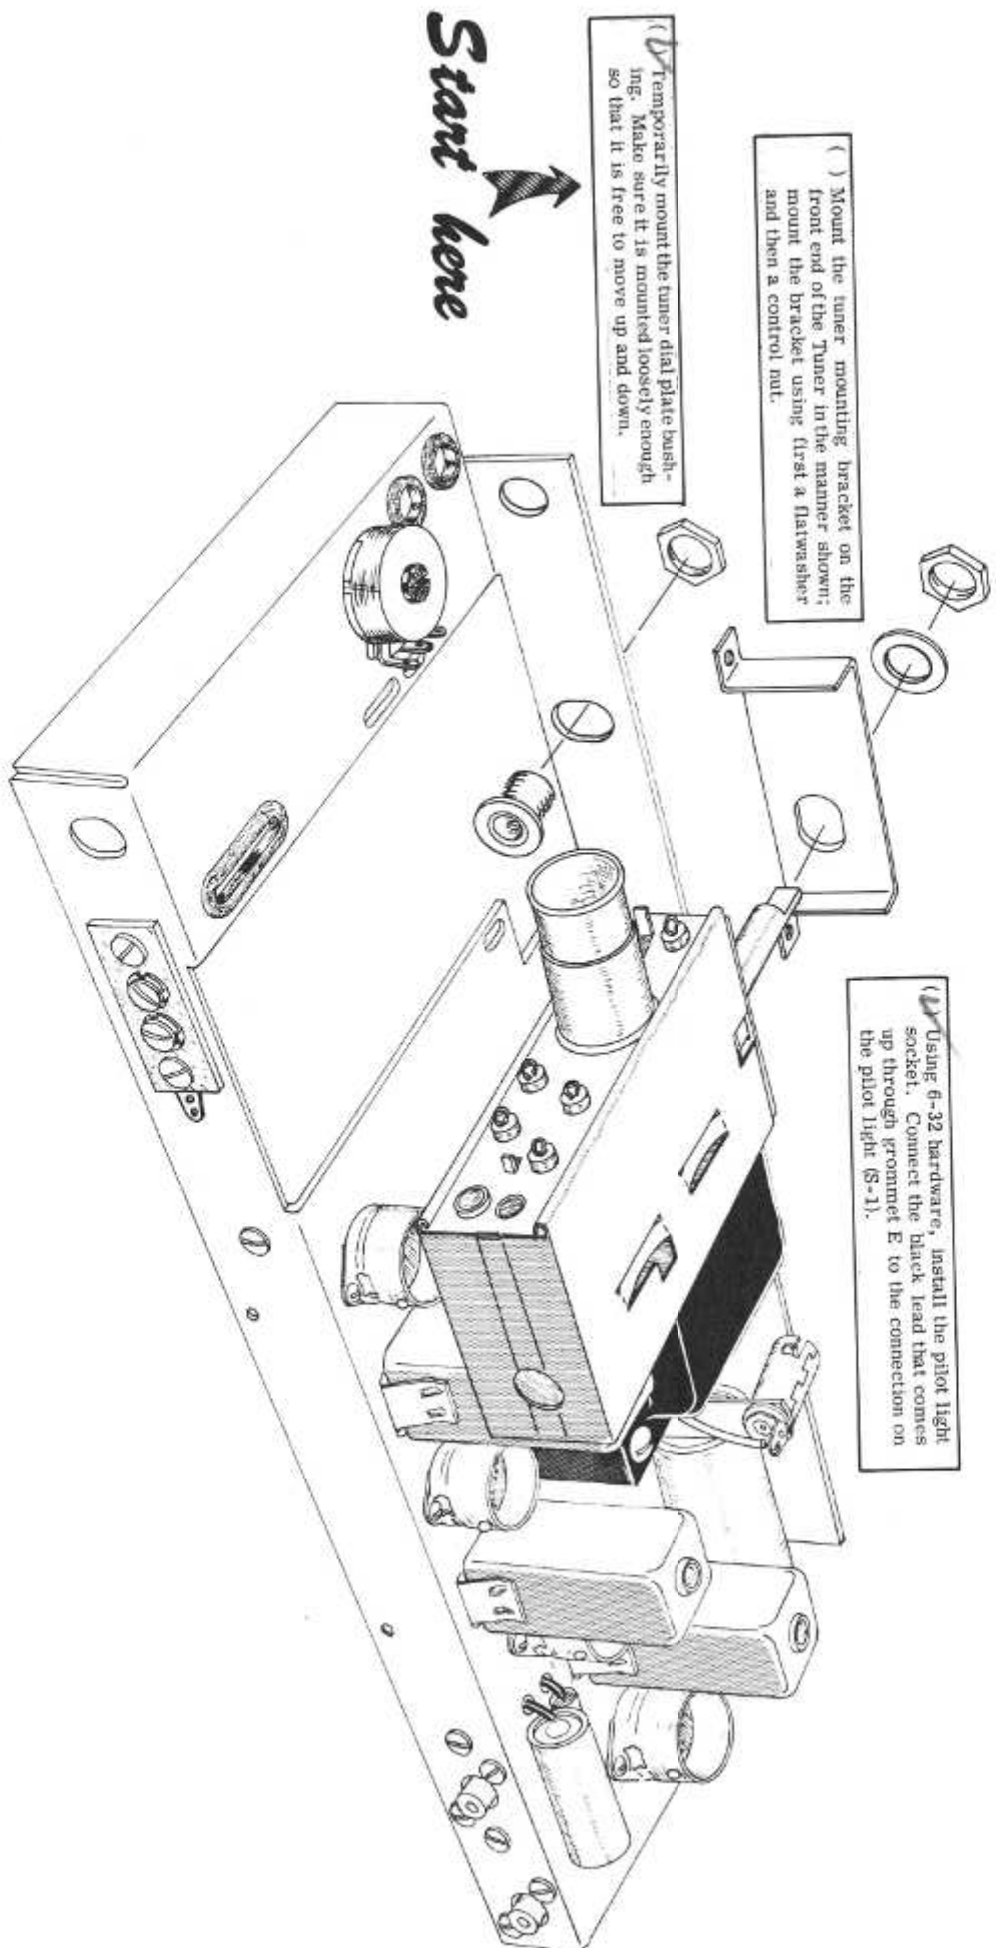

Figure 5
- (✓) Connect the other lead of the resistor to terminal FF1 (NS). Position the body of the resistor between terminals FF1 and FF2.
- (✓) Clip one lead of a .01 μ fd, 50 volt capacitor to a length of 1/2". Connect this 1/2" lead to pin 8 of V5 (NS). Shorten this lead, if possible, and cut off any excess length. Hook this lead to pin 8 so that the capacitor will be as close as possible to pin 8. Make sure when this is done that the lead is not long enough to touch the chassis. Place the body of the capacitor against the chassis.
- (✓) Connect the other end of the 470 K Ω resistor to terminal FF1 (NS).
- (✓) Connect a 1 K Ω resistor (brown-black-red) from pin 9 of V5 (S-1) to terminal FF1 (NS). Insert a .05 μ fd 200 V capacitor between terminal strip FF and side of the chassis, by sliding it back along the underside of the chassis lip. (The 10 K Ω resistor may have to be pushed down to accommodate the capacitor.)
- (✓) Perform the steps in boxes around Figures 5 and 6 before proceeding with the following steps.